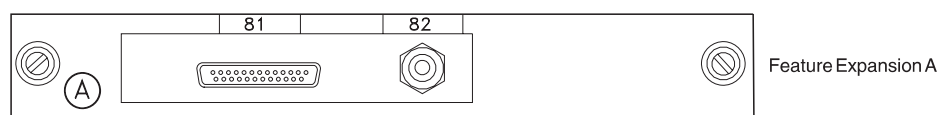

Figure 139. Feature Expansion A
1. Mark an X on Figure 139 to indicate the socket in which the device cables are attached to Feature Expansion A: